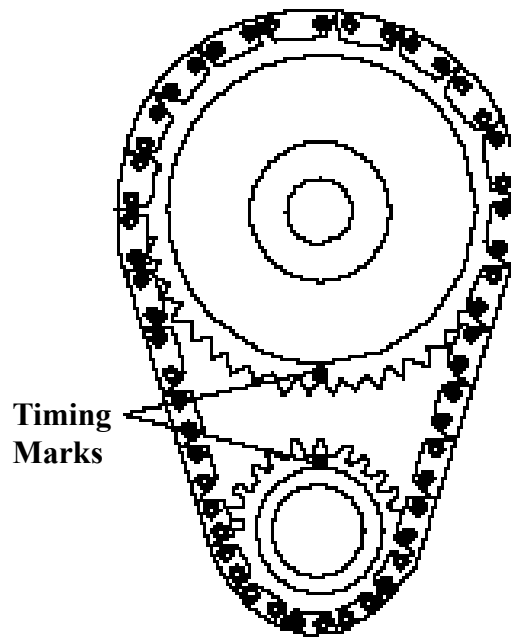

Figure 2- Timing Chain Sprocket Alignment
13. Rotate engine until timing marks are aligned as shown in Figure 2.
this camshaft installation. Edelbrock Timing Sets feature three keyways for specific timing selection. Use locking compound material on the bolt threads holding timing gear to cam. Torque to factory recommendations specified in motor repair manual. Install camshaft with timing marks lined up as recommended by factory specifications. See Figure 2.
After the cam is installed and timed correctly (see Figure 2), it will be necessary to check each pushrod for correct lifter preload.